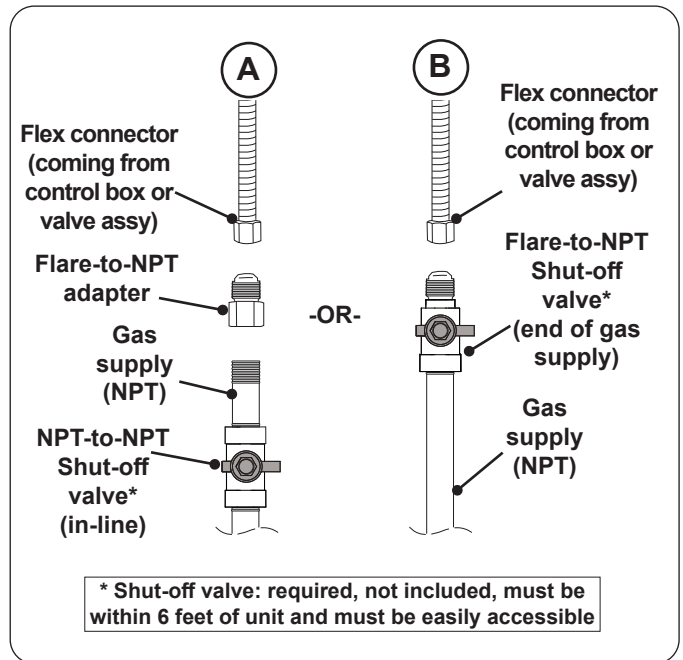

Fig. 22-1 Connecting to a gas line
- Install the supplied flare-to-NPT adapter to the gas supply (NPT) using a pipe joint compound resistant to all gasses (see Fig. 22-1, A). Tighten securely.
- Connect the flex connector to the adapter (see Fig. 22-1, A). Tighten securely.
- Connect the flex connector to the shut-off valve (flare)(see Fig. 22-1, B). Tighten securely.